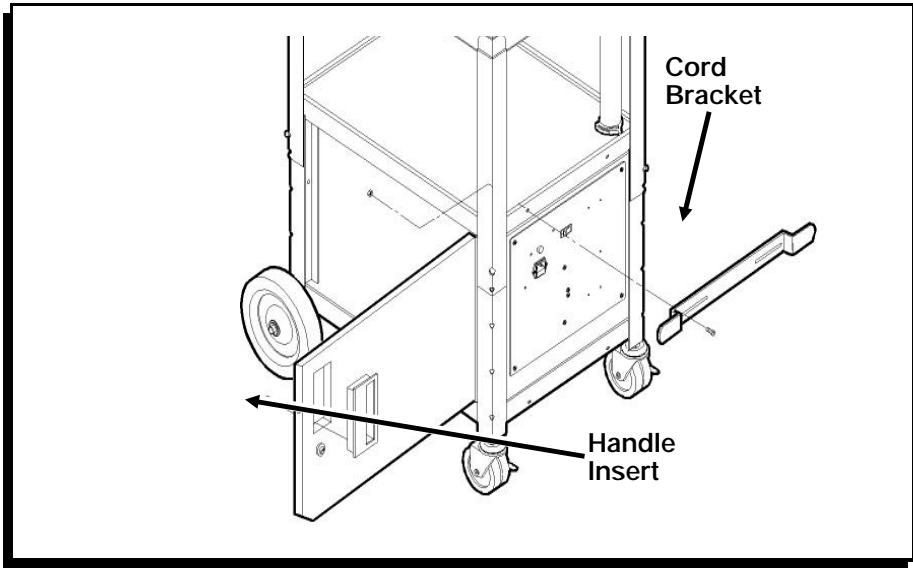

Figure 4
2. Open the Station's cabinet. Press the chrome handle insert into the cabinet door and fasten it with two 5/8" phillips screws. (Figure 4.)
3. Position the cord bracket over the mounting holes on the lower shelf's edge shown. Fasten the bracket with two 1/2" slotted screws and 8-32 nuts/lockwashers. (Figure 4.)